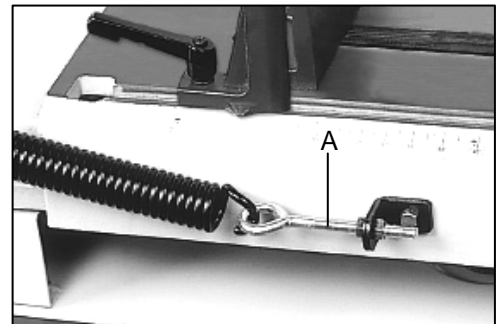

Fig. 17
5. Adjust tension to approximately 5-6kgs by turning bolt (A, Fig. 17).